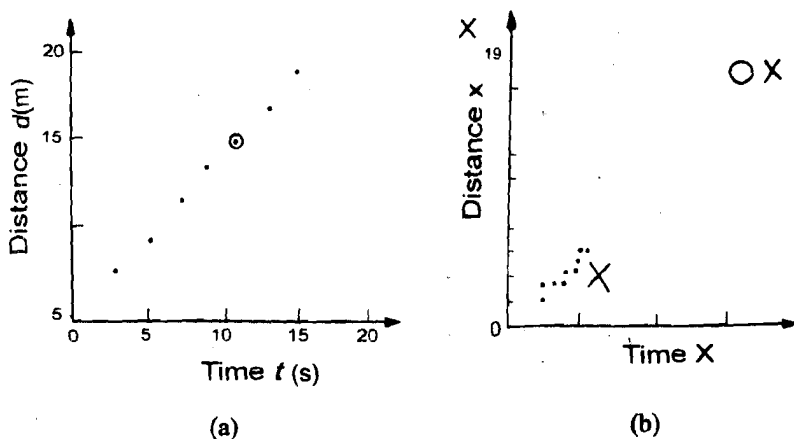

Fig.1.3: Some a) Dos and b) Don'ts to be kept in mind while drawing a graph
- ii) You should choose the scales so that the points are suitably spread out on the entire graph paper rather than being cramped into a small portion. Note the minimum and maximum values of the data to be plotted. Then round off these numbers to slightly less than the minimum and slightly more than the maximum. The resulting difference should be divided by the number of divisions on the graph paper. For example, if you are to plot 6.4 cm and 18.7 cm, it would be convenient to allow the scale to run from 5 cm to 20 cm rather than 0 to 19 cm (see Fig.1.3).